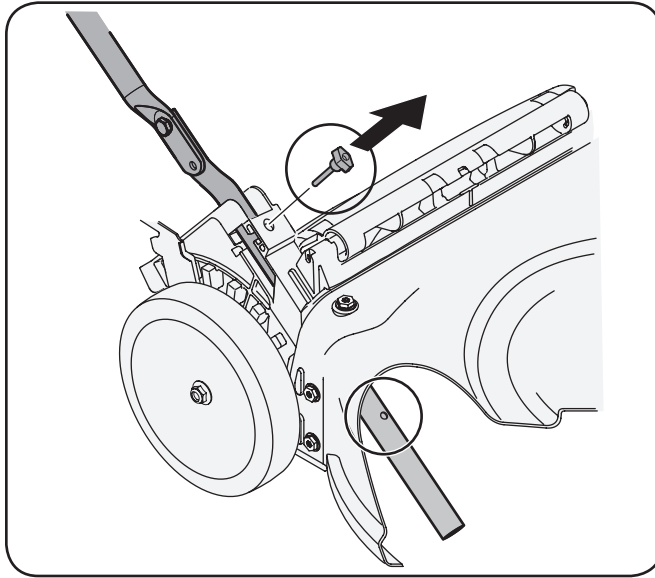
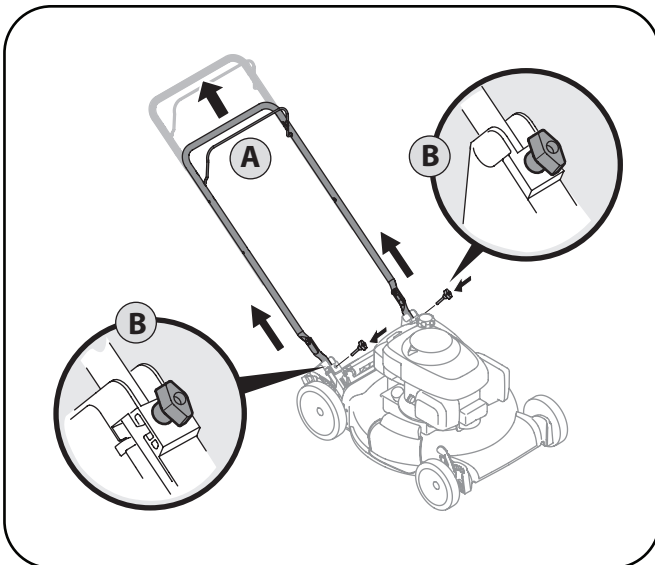

Figure 3-3
Figure 3-4
2. Remove the T-bolts from the handle brackets as shown in Fig. 3-3.
- a. Pull upward on the handle until holes in lower handle (shown in Fig. 3-3 deck cutaway) line up with holes in handle bracket. See Fig. 3-4.
- b. Insert the T-bolts removed earlier through the handle brackets and lower handle and tighten securely to secure the handle in place. See Fig. 3-4.